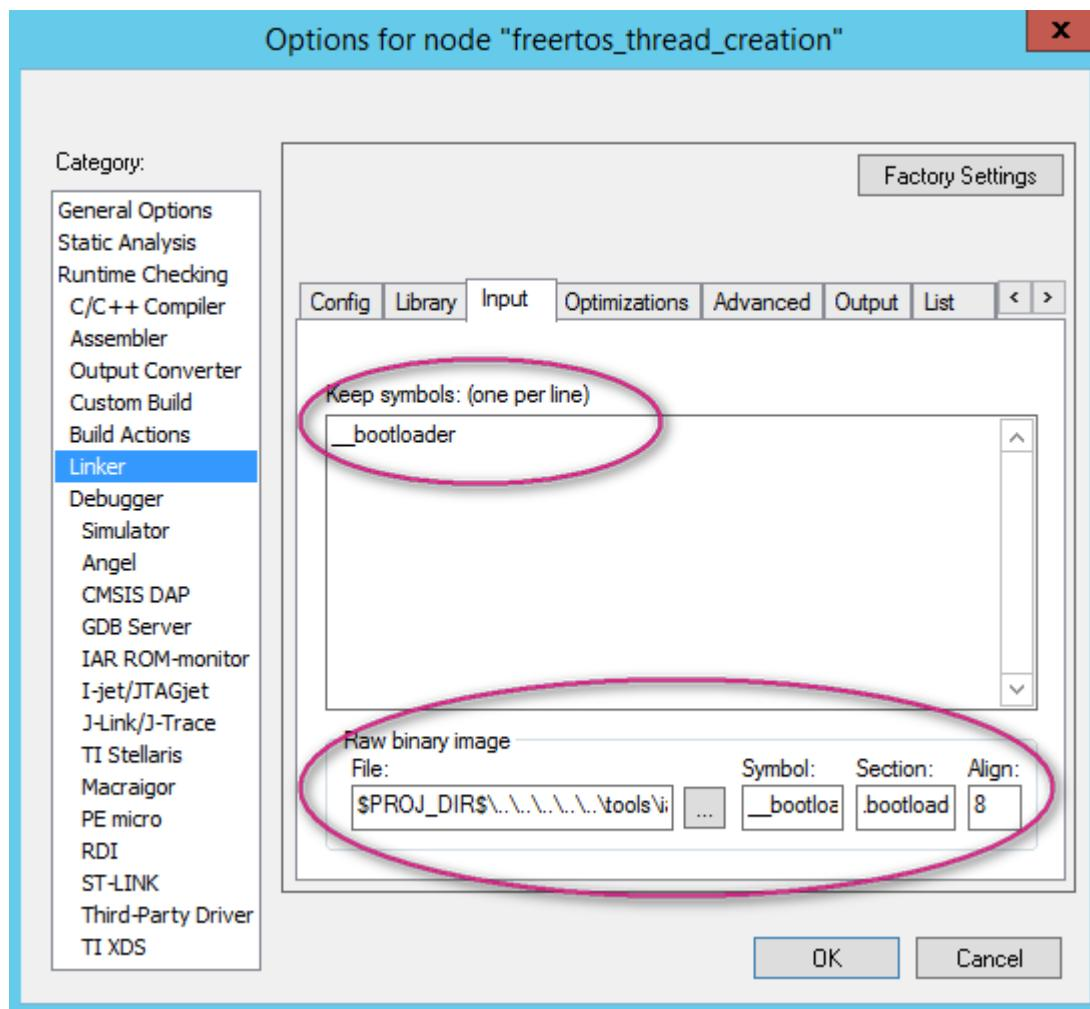

Figure 62. Set extra download Image
- 5) Choose Linker and Navigate to the input tab to modify setting as below, as shown in Figure 62.